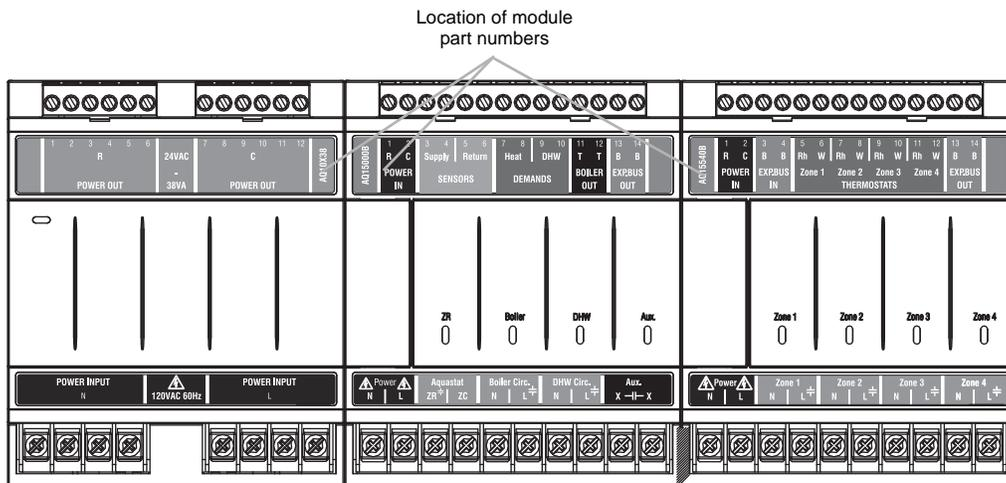

Figure 1: Location of module part numbers
- 1) Ensure the replacement module has the same or equivalent part number and performs the same function as the module being replaced. The table below shows two possible model numbers for each type of panel, and the equivalent replacement module for each panel. The part number can be found on the bottom left or bottom right portion of the low voltage terminal strip label of each AQ2000 component. [Refer to Figure 1].